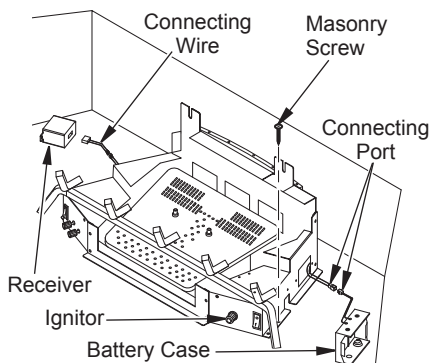

Figure 11 - Attaching Heater Base to Fireplace Floor
2. Mark screw locations through holes in mounting brackets (see Figure 11). If installing in a brick-bottom fireplace, mark screw locations in mortar joint of bricks.
5. Apply pipe joint sealant lightly to fitting threads. Connect approved flexible gas hose to gas regulator of heater (see Figure 11). *Note: Never apply pipe sealant to flare fitting threads. Hold gas regulator with a wrench when connecting flexible gas hose.*
6. Attach base assembly to fireplace floor using two masonry screws provided in hardware package (see Figure 11).
Insert one side of the connecting wire port into the chassis (black and green line). Insert the other side into the receiver port (see Figure 11).
Insert the battery case port into the ambient light connecting port (see Figure 11).